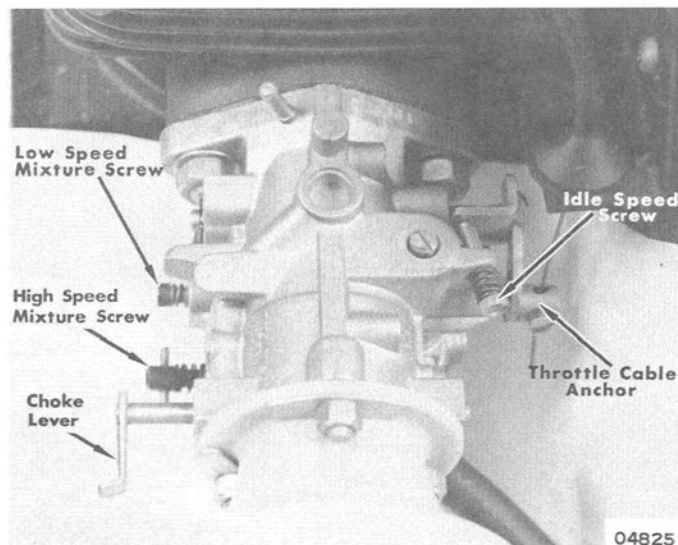

Figure 4. Carburetor Adjustments
1. Adjust idle mixture screw to obtain a smooth, steady idle and readjust idle speed screw to obtain idle speed recommended. Recheck idle mixture adjustment at recommended idle speed. (Figure 4)
1. Operate vehicle at full throttle under normal load conditions and slowly turn high speed mixture screw outward (counterclockwise) until engine starts to fire unevenly ("four-cycles") which indicates an over-rich fuel mixture. (Figure 4)